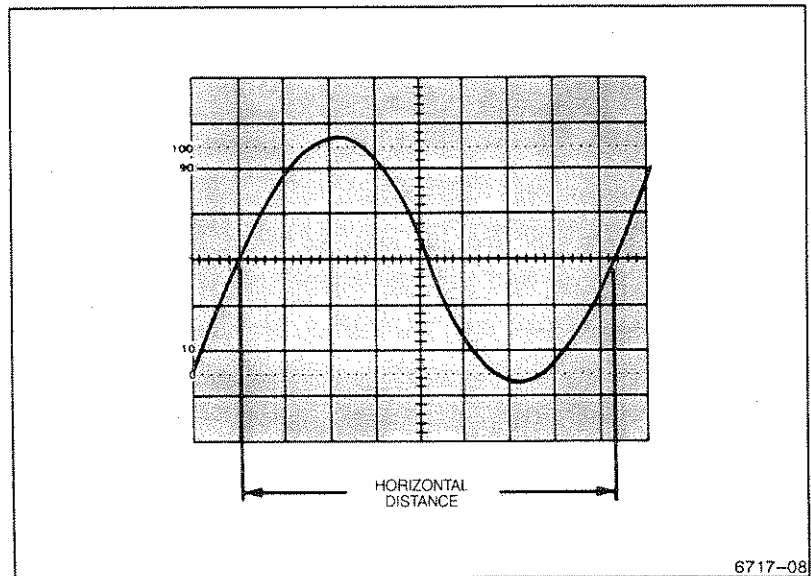

Figure 3-5. Measuring time duration.
- Position the display to place the time-measurement points on the center horizontal graticule line (see Figure 3-5).
EXAMPLE. In Figure 3-5, the distance between the time measurement points is 8.3 divisions, and the SEC/DIV setting is 2 ms per division, HORIZONTAL MAG is set to X1.
EXAMPLE. The signal in Figure 3-5 has a period (T) of 16.6 ms. Calculating frequency (f):